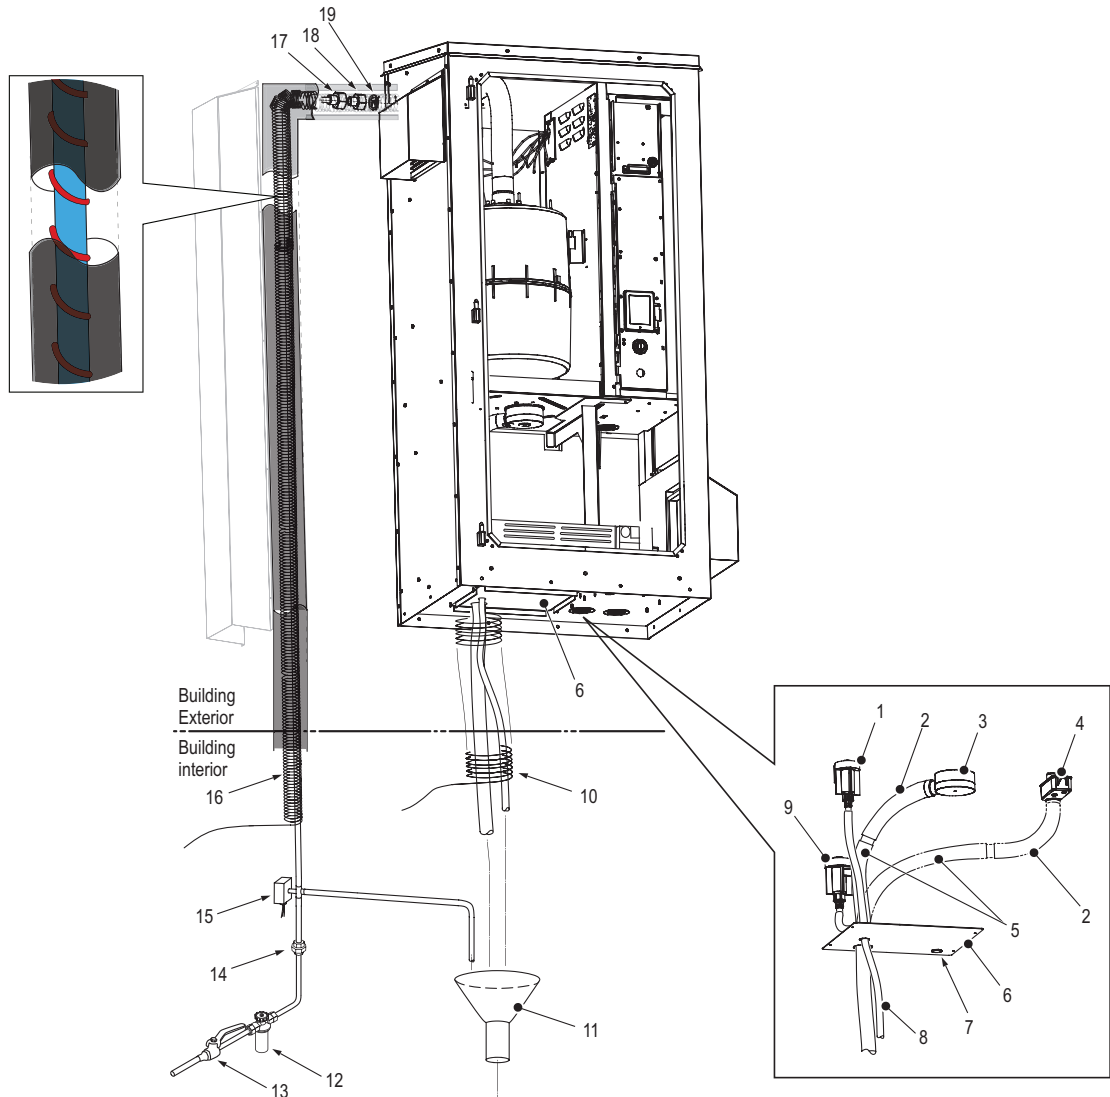

Figure 14: Water Supply and Drain Connections (medium size Nortec EL-OC unit shown)
Connect the water supply and drain lines as described below. Refer to Figure 14.
- Route a drain line (supplied by others) with an inside diameter of 1-3/16 in (30 mm) through the large hole in the bottom panel and connect it to the flexible bent hose (supplied) exiting the humidifier – refer to Figure 14 on page 36. Secure the line with clamps (supplied). Route the other end of the drain line to the air gap funnel.